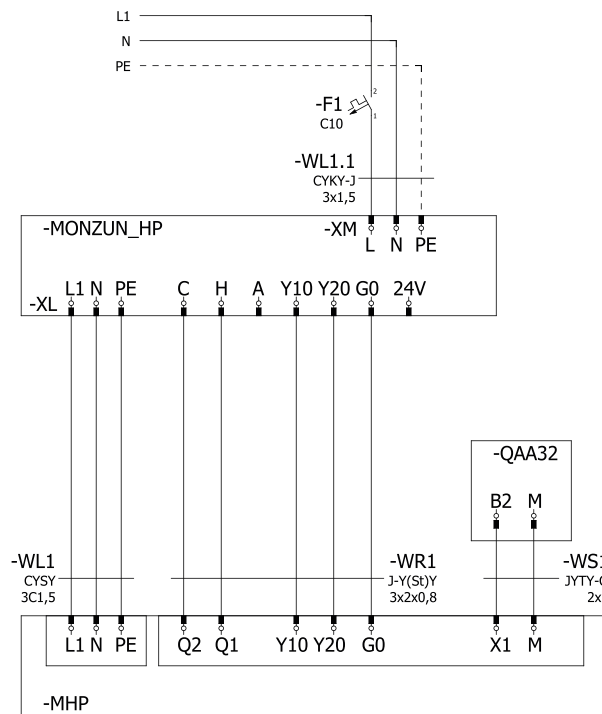

Fig. 23: Connecting the MONZUN-HP heater to the MHP control panel
Bring the cables through the grommets on the bottom or through the holes in the back wall of the cabinet and plug them into the terminal block according to Fig. 23 or 24.
8. The outdoor unit output configuration is correct according to Fig. 23 and all other indoor and outdoor unit configurations are correct.